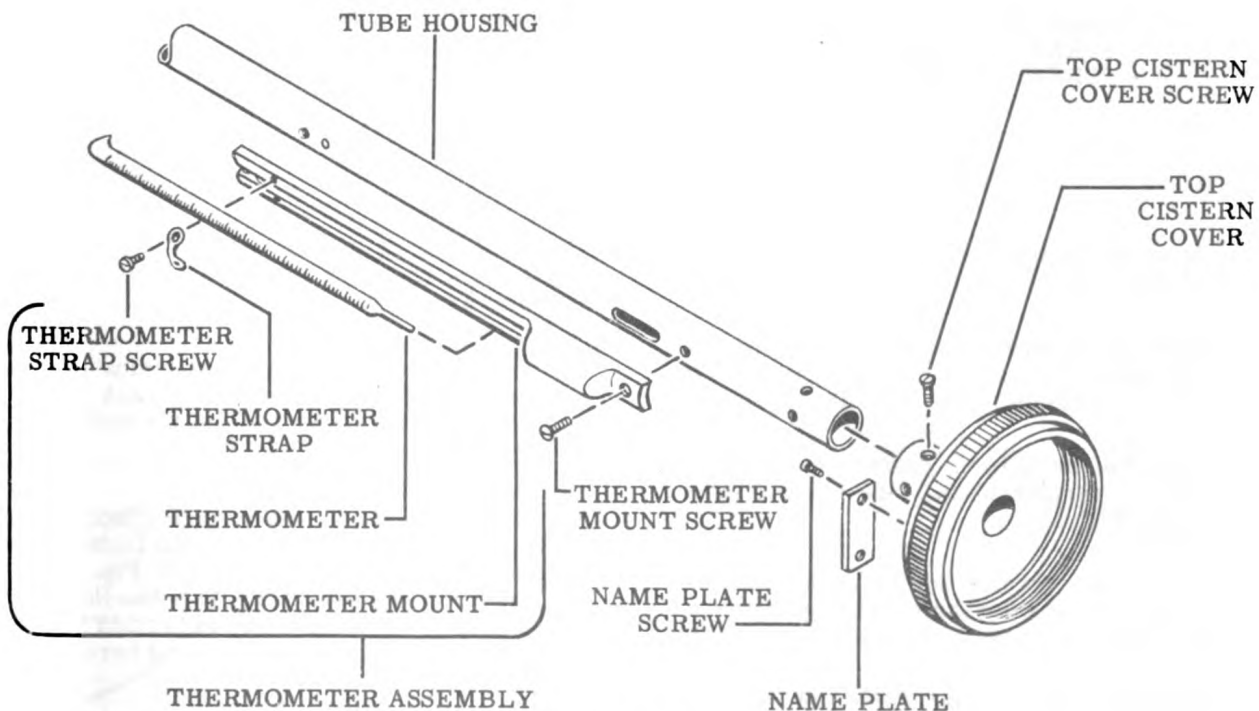

Figure 10
18. Remove the two thermometer mount screws. The thermometer assembly will now come free from the tube housing. See the exploded view, Fig. 10.
19. Remove the two thermometer strap screws from the thermometer mount and remove the thermometer strap. Lift the thermometer carefully out of the mount. See the exploded view, Fig. 10.
20. Scribe a reassembly guide mark on the top cistern cover and the tube housing. Remove the four top cistern cover screws. Then remove the top cistern cover from the bottom end of the tube housing. See the exploded view, Fig. 10.
21. Remove the name plate from the top cistern cover by unscrewing the two name plate screws. See the exploded view, Fig. 10.